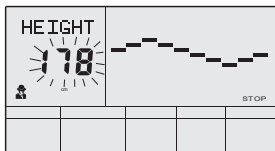

fig 35
- C. The height display will flash, and then press(or rotate) UP, DOWN button to set up your height. Press ENTER to confirm the value.(See fig 35)